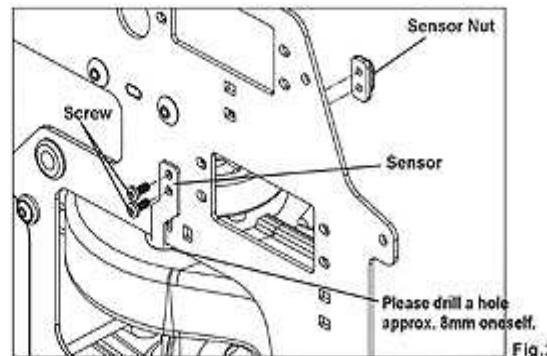

Fig.2
- See Fig. 2, install the sensor on the main frame, and check if any interference caused by the engine fan.